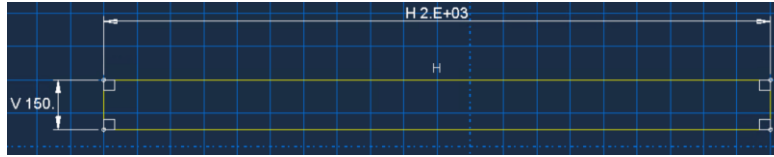

Figure 2-5 – Sketch of the rectangle.
- e. The final sketch is shown in Figure 2-5.